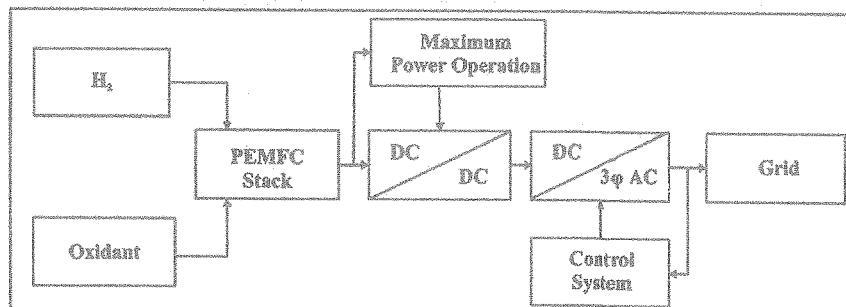

Figure Q2(c) Grid integration of PEMFC stack
- c) Grid Integration of a proton exchange membrane fuel cell (PEMFC) stack is illustrated in Figure Q2(c). The PEMFC stack consists of 10 series connected PEMFCs each with internal resistance of  $0.1 \Omega$ . The average discharging current of a cell should be kept at  $0.5 \text{ A}$ . Due to the variation of the  $H_2$  supply, the stack voltage is varying in a range from  $90 \text{ V}$  to  $150 \text{ V}$ . For each input value, the duty-ratio of the DC-DC converter is adjusted to keep the inverter input voltage constant at  $120 \text{ V}$  using PWM switching with  $f_s = 25 \text{ kHz}$ .